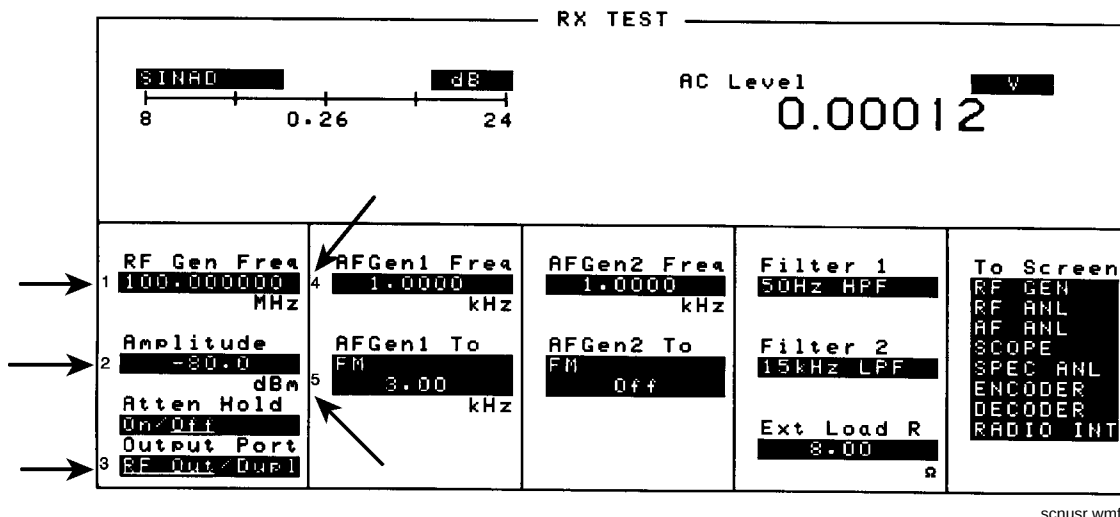

Figure 12
1. Press and release the SHIFT key, then the k4 key to access the ASSIGN function; then press the ENTER key. The numbers 1 through 5 appear in front of various fields. (See Figure 12.)